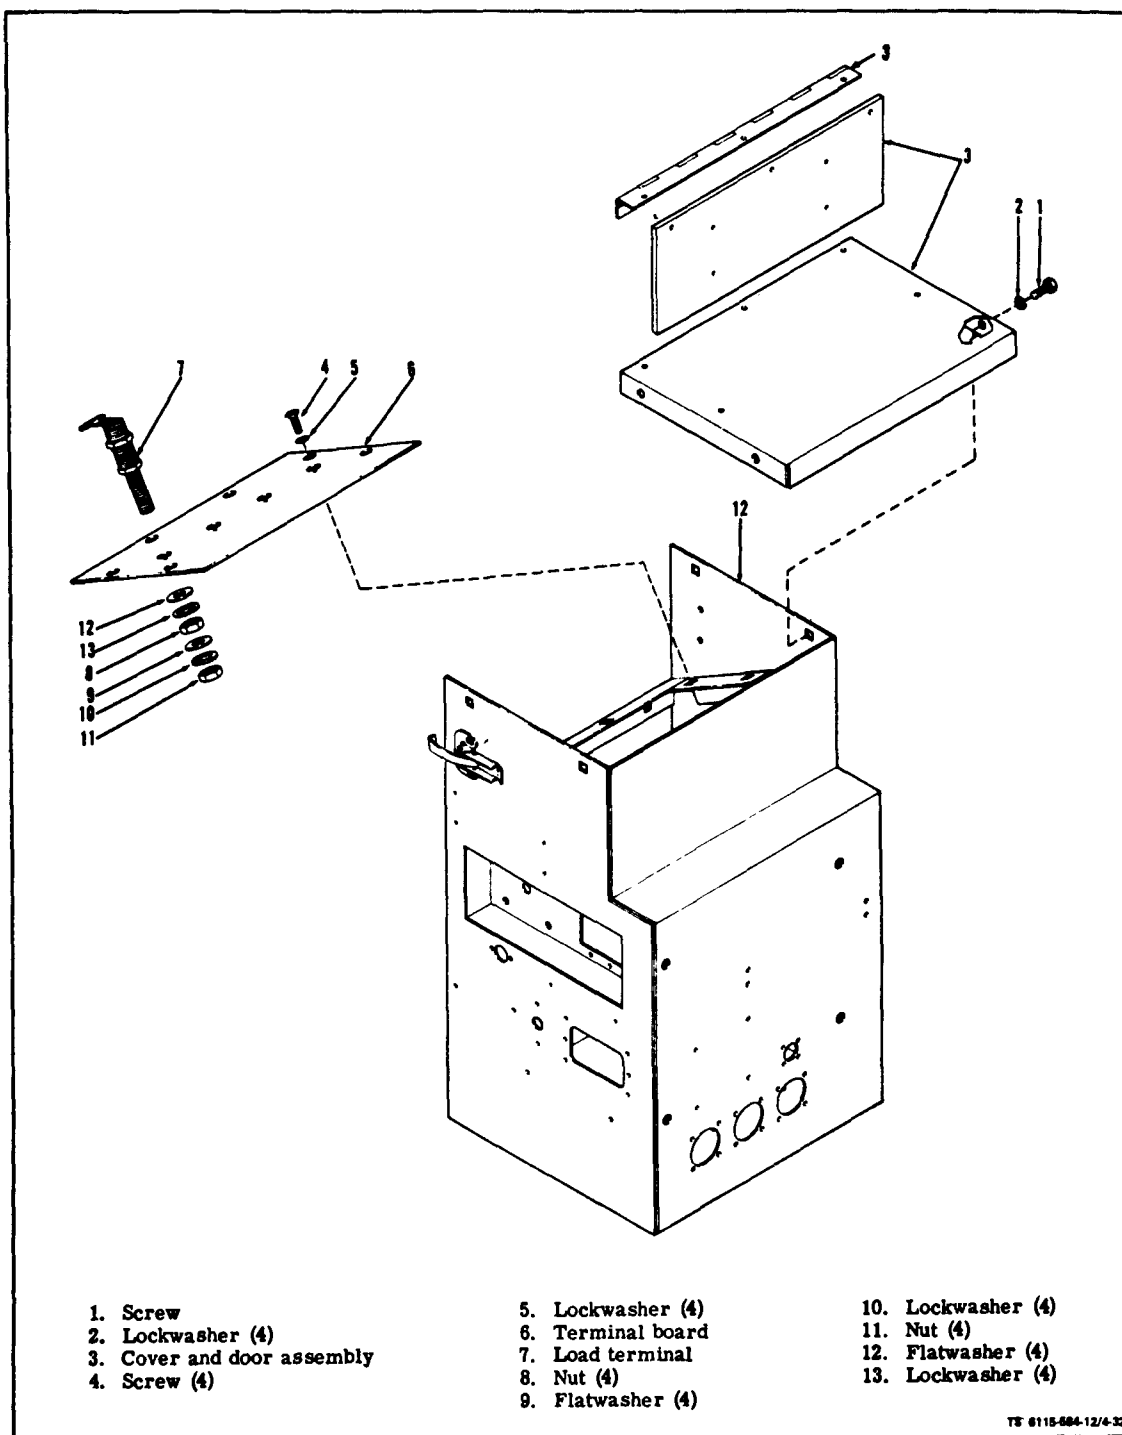

Figure 4-32. Load Terminal Board Assembly
a. Load Terminal Removal (see figure 4-32).
- (1) Unlatch door (3).
- (2) Remove screws (1), lockwasher (2), and cover and door assembly (3).
- (3) Remove screws (4) and lockwashers (5).
- (4) Carefully lift terminal board (6) and tag and disconnect leads from load terminals (7) by removing nut (11), lockwasher (10) and flatwasher (9).
- (5) Remove load terminal (7) from terminal board (6) by removing nut (8), flatwasher (12) and lockwasher (13).
b. Load Terminal Installation (see figure 4-32).
- (1) Install load terminal (7) to terminal board (6) by installing lockwasher (13), flatwasher (12) and nut (8).
- (2) Connect leads to terminals (7) by installing flatwashers (9), lockwashers (10) and nut (11).
- (3) Install lockwashers (5) and screws (4).
- (4) Install door assembly (3), lockwashers (2) and screws (1).
(5) Latch door.